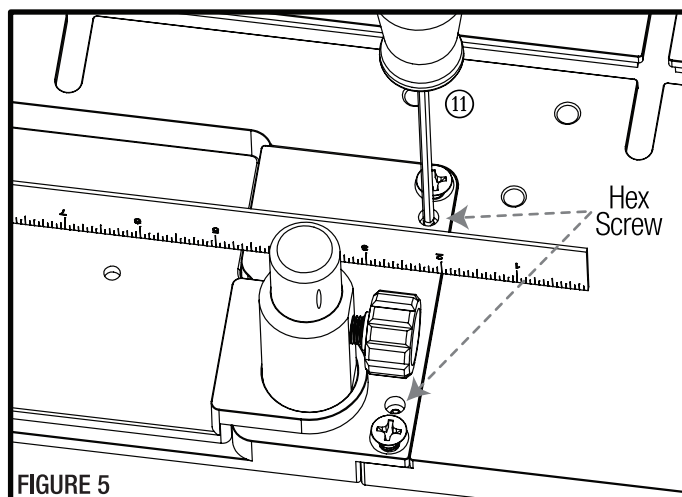

FIGURE 5
6. Using the Allen Driver, reach in through the openings in the Base to the Hex Screws. Rotate the Hex Screws counterclockwise for the Plate to move up to match the Table height evenly. Use a straight edge across the Base and the Table to assist in matching the surface heights. **Figure 5.**